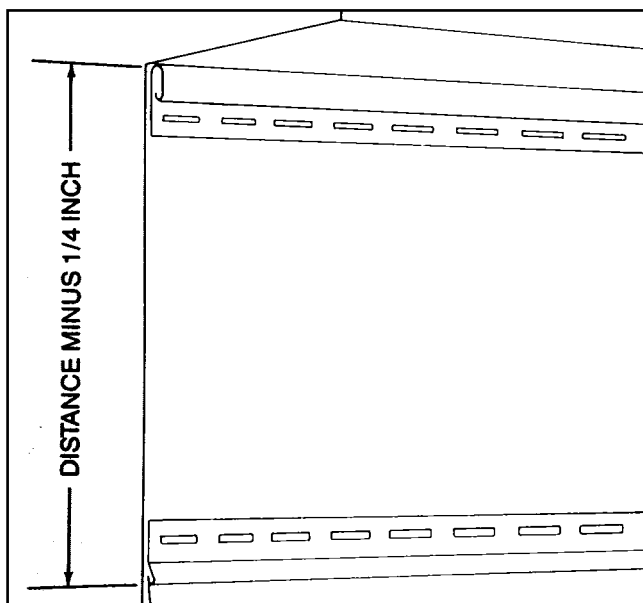

Fig 6.4
**4. FINISHING UNDER EAVES** Before installing the last course of siding, attach finish trim or dual undersill trim to the top of the wall along soffit overhang. Measure the distance between the top inside slot of the finish trim and the top lock of the last panel of siding installed (Fig. 6.4) Deduct 1/4" from this measure for expansion and cut the top siding panel to this dimension.